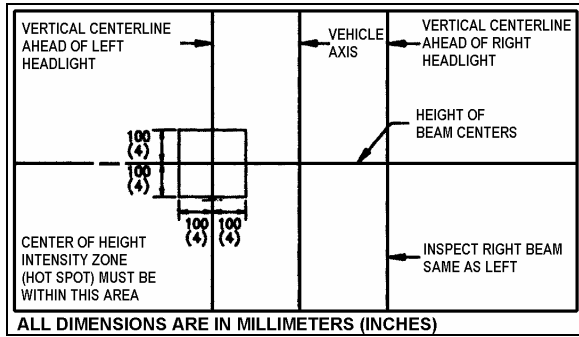

FIGURE 60: AIM INSPECTION LIMITS FOR UPPER-BEAM HEADLIGHTS 06505
7. The inspection limits for high-beam headlights shall be with the center of the high-intensity zone from 10 cm (4 in) up to 10 cm (4 in) down; and, from 10 cm (4 in) left to 10 cm (4 in) right on a screen at 7.6 m (25 ft) (Fig. 60).